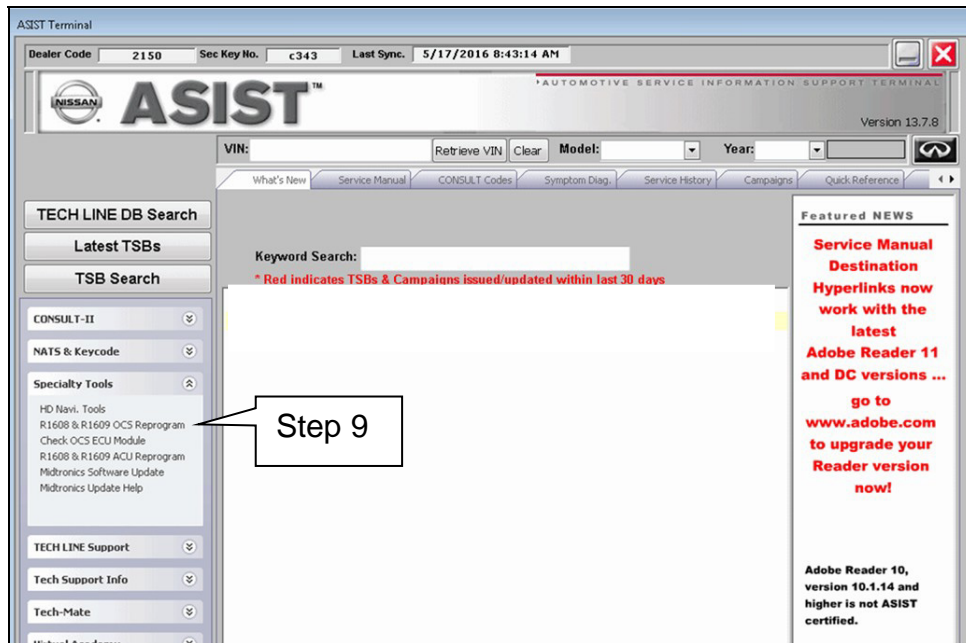

Figure 3
9. Start the CONSULT PC, open ASIST and then select “**R1608 & R1609 OCS Reprogram**” on ASIST under Specialty Tools (Figure 3).